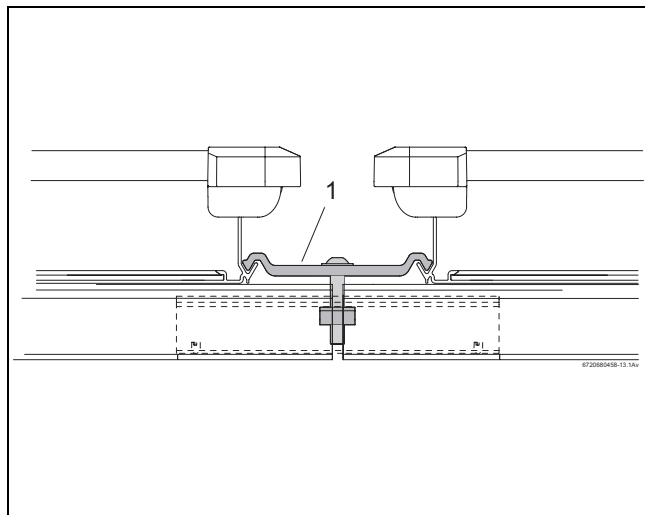

Fig. 45 Double sided collector clamp between two collectors
The single sided collector clamp (Fig. 45, [1]) now secures the lower corner of the collector.
- Push the single-sided collector clamp (Fig. 45, [1]) into the ends of the upper and lower profile rails.
- Push the collector clamp up against the collector frame and secure in place with a size 5 Allen key (Fig. 45, [2]).